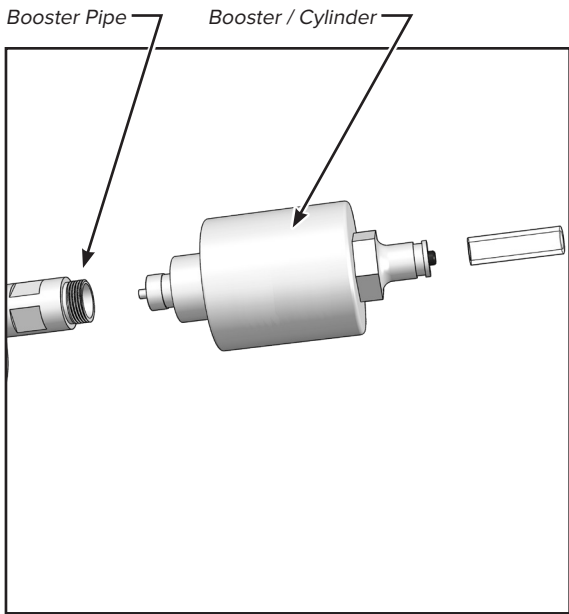

FIGURE 25
- 3. Un-thread the booster/cylinder from the booster pipe (figure 25).